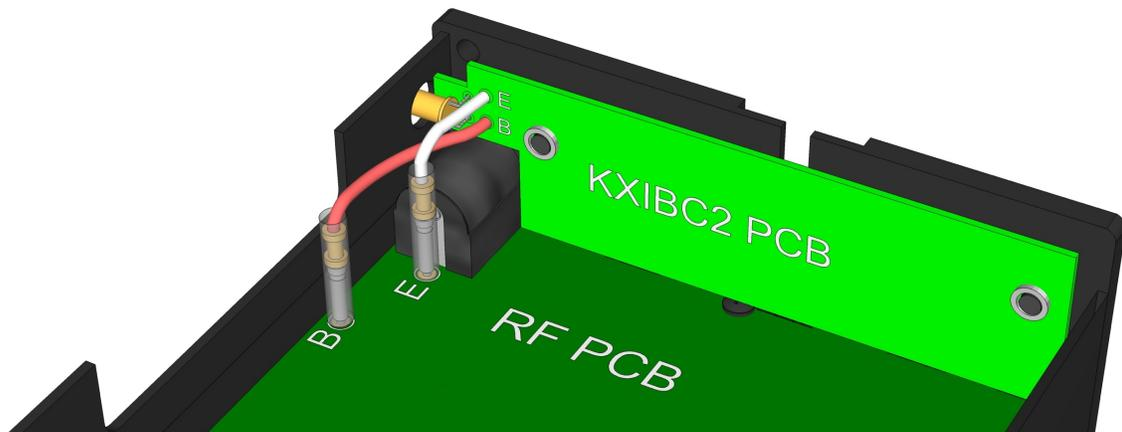

Figure 2
- **Method 2:** Solder pin jacks to the RF board’s “B” and “E” pads as shown in **Figure 2**, slip on the supplied plastic sleeving, then plug in the two wires from the KXIBC2 module. This method is used for factory installation. However, installing a pin jack in the “E” pad can be very difficult. This is because the “E” pad’s hole may be filled with solder, and it can be extremely hard to remove.